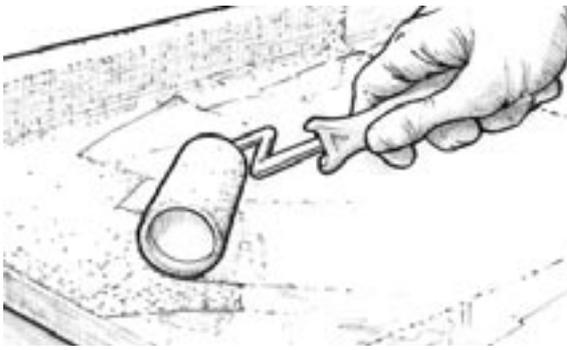

Figure 3-18 Apply the first coat of unthickened epoxy to fill the weave of the cloth before the wet-out coat reaches its final cure stage.
9. Coat the surface to fill the weave before the wet-out reaches its final cure stage (*Figure 3-18*). Follow the procedures for final coating under Section 3.4.7. It will take two or three coats to completely fill the weave of the cloth and to allow for a final sanding that will not affect the cloth.